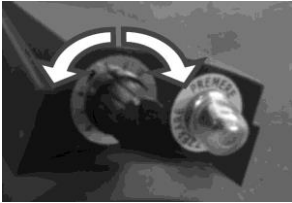

Fig. 8
5. To select the most suitable speed for your job, turn the speed control knob until it marks the desired speed. (Fig. 8)